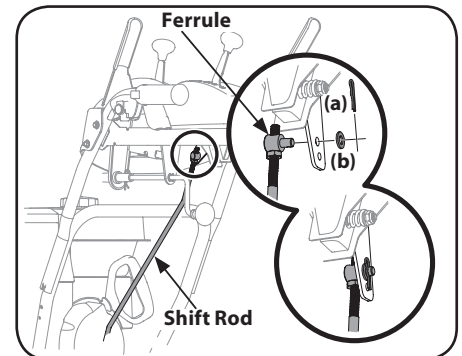

Figure 2-39
8. Remove cotter pin (a) and washer (b) from ferrule on end of shift rod. See Figure 2-39 inset.